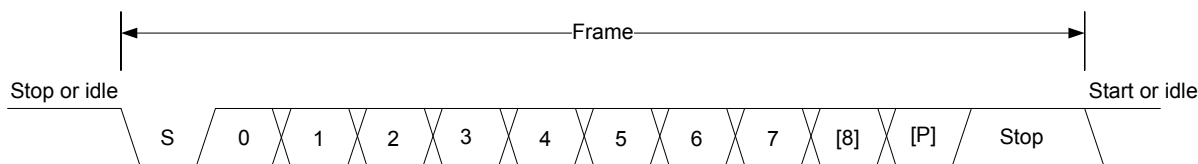

Figure 17.2. LEUART Asynchronous Frame Format
The frame format used by the LEUART consists of a set of data bits in addition to bits for synchronization and optionally a parity bit for error checking. A frame starts with one start-bit (S), where the line is driven low for one bit-period. This signals the start of a frame, and is used for synchronization. Following the start bit are 8 or 9 data bits and an optional parity bit. The data is transmitted with the least significant bit first. Finally, a number of stop-bits, where the line is driven high, end the frame. The frame format is shown in Figure 17.2 LEUART Asynchronous Frame Format on page 544.